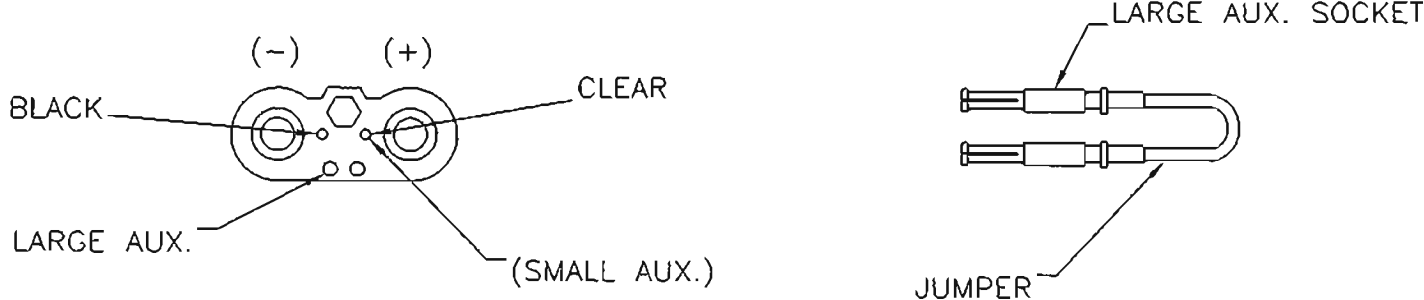

Fig. 4B
- Install the jumper with the large auxiliary sockets into the EBC battery connector as shown in Fig. 4B.